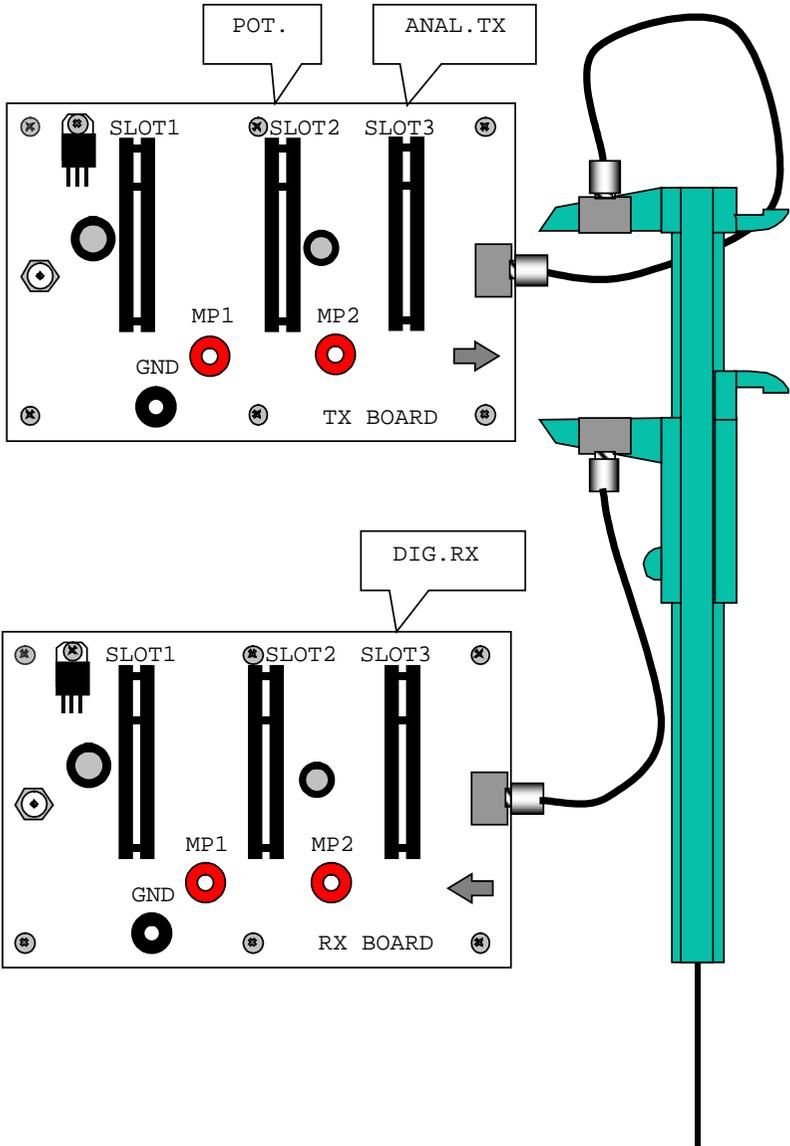

Figure 13: The setup diagram of a distance sensor.
1. Insert the analogue transmitter into Slot 3 and the potentiometer into Slot 2 of the main transmitter panel (Figure 13).